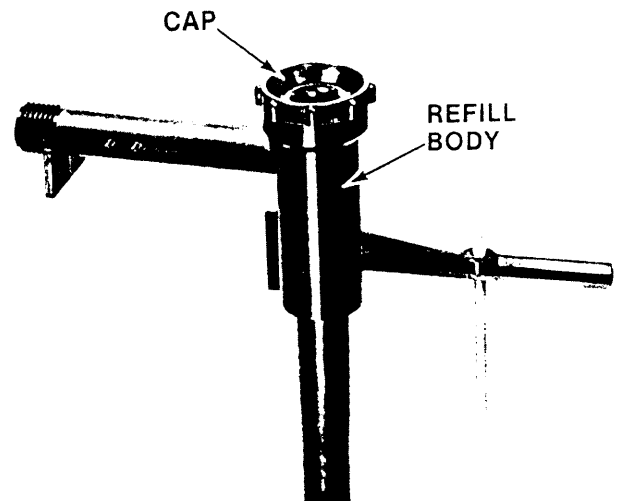
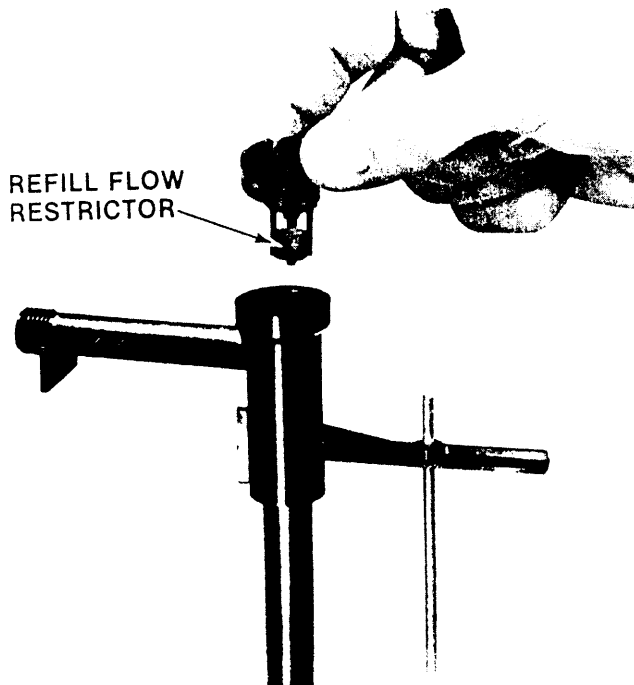

Fig. 11
Fig. 12
The brine valve in the salt storage tank has a flow control located in the upper body. This flow control must be changed for proper operation. Refer to Fig. 11 and Fig. 12.
1. Unscrew the valve cap and lift out of the refill body (Fig. 11).
2. Remove the flow control from its nest inside the three fingers on the cap and replace it the the #3 flow control from the small parts package (Fig. 12). Insert the cap back into the valve body and retighten.